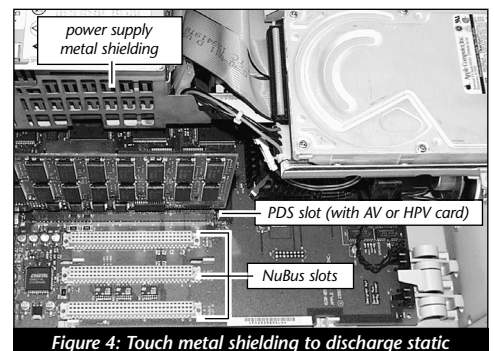

Figure 4: Touch metal shielding to discharge static
6. Identify the internal components of your computer (*Figure 4*). Touch the power supply metal shielding to discharge any potential damaging static electricity.